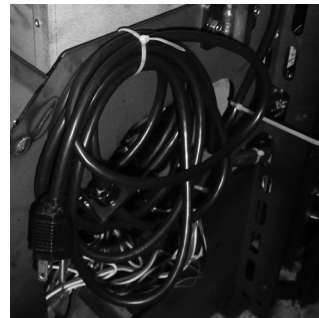

Figure 5.11
1. Cut the wire-ties looping the cord to the left. Figure 5.11.